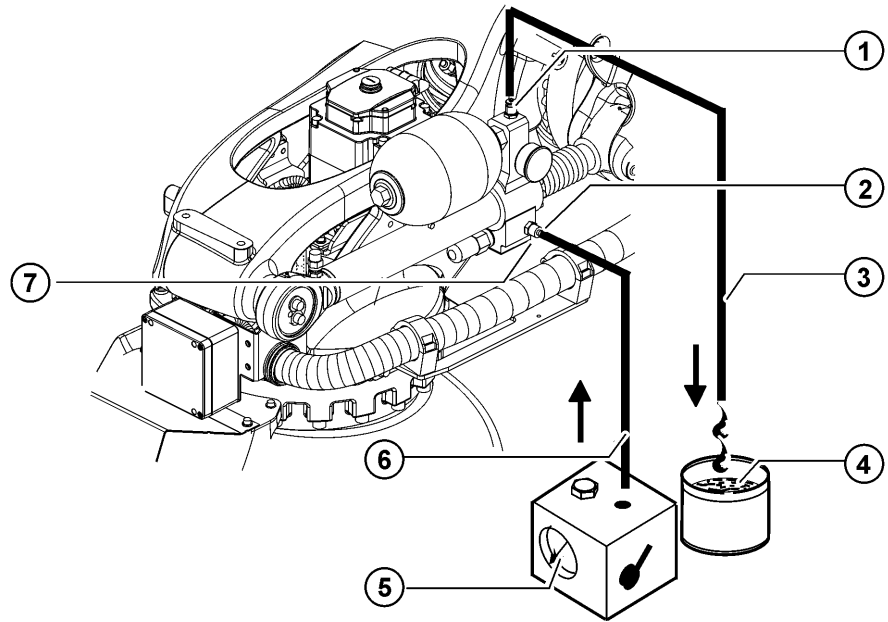

Fig. 10-6: Topping up the hydraulic oil
18. Unscrew the screw cap on the filler neck (>>> Fig. 10-6) and connect the hydraulic tube.